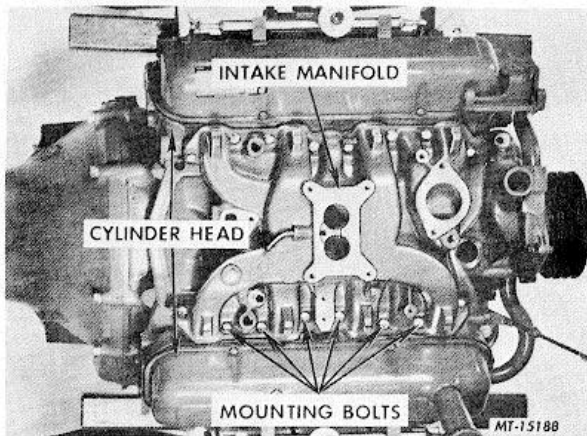

Fig. 20 Intake Manifold Removal
24. Remove manifold bolts and remove intake manifold from cylinder heads, Fig. 20.